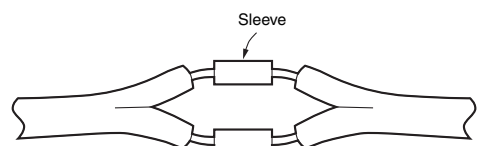

Figure 9
As shown in *Figure 9*, the sensing bands can be inserted from opposite ends of the crimp sleeve to meet in the middle. Either P-1.25 or B-1.25 crimp sleeves can be used but make sure that the crimped section is big enough to fit three folds of the cable conductors.
(4) Connecting the Sensing Band and Lead Wires
Connect the sensing band and lead wires using the method described in the previous item (3). Use a B-1.25 crimp sleeve. (Refer to *Figure 9*.)